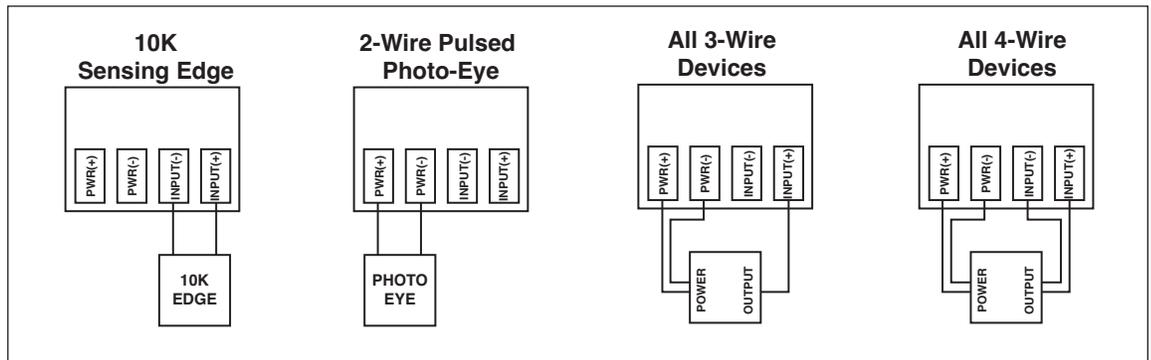

Figure 2
- 2-5. Wire each of your monitored devices to the removable 4-pin connector as shown in Figure 2. If the device is polarity sensitive, identify the correct common/ground wires. You do not need to use all 6 inputs.